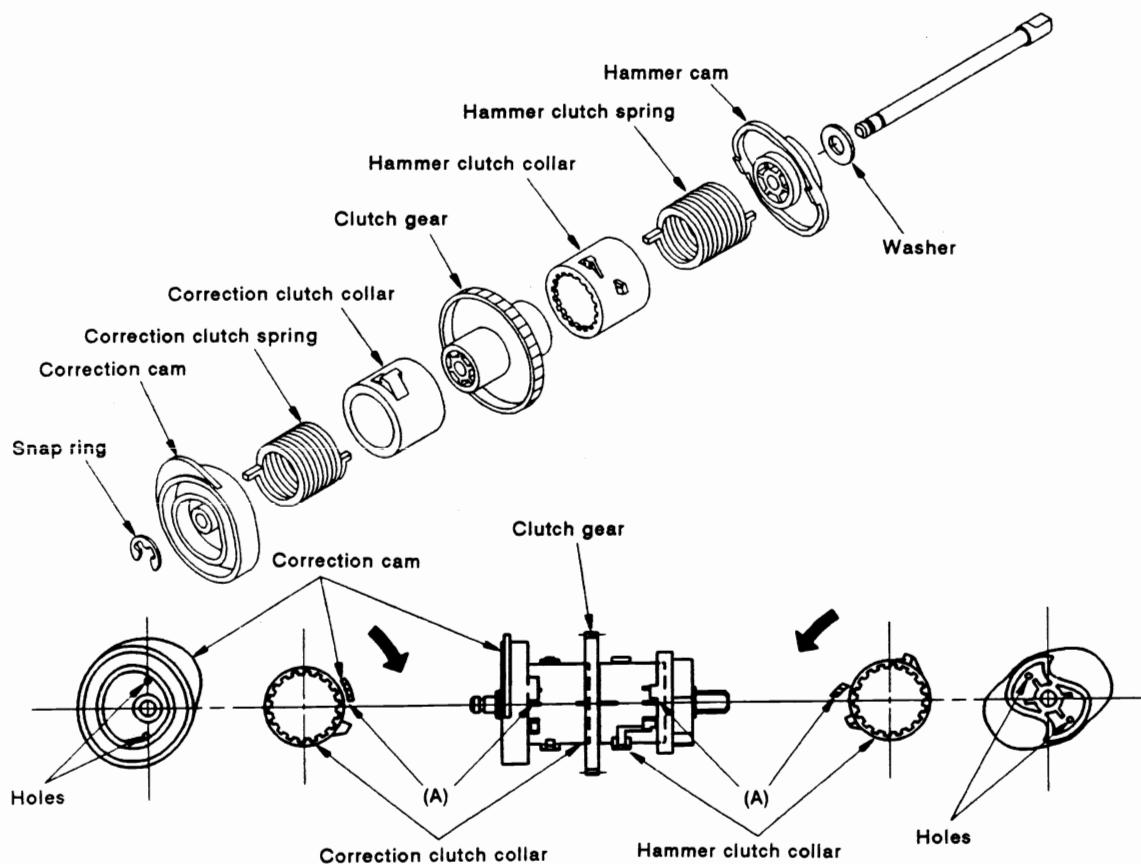

Fig. 12.2
Reassembly of these parts requires correct positioning. (Fig. 12.2)
Fit the correction clutch spring so that part (A) of the correction cam comes between the two small grooves of the correction clutch collar. The two grooves correctly locate its position when the clutch gear is rotated in the direction indicated by the arrow, with a correction clutch collar held still. This is done by correctly positioning the holes of the correction cam. See Fig. 12.2